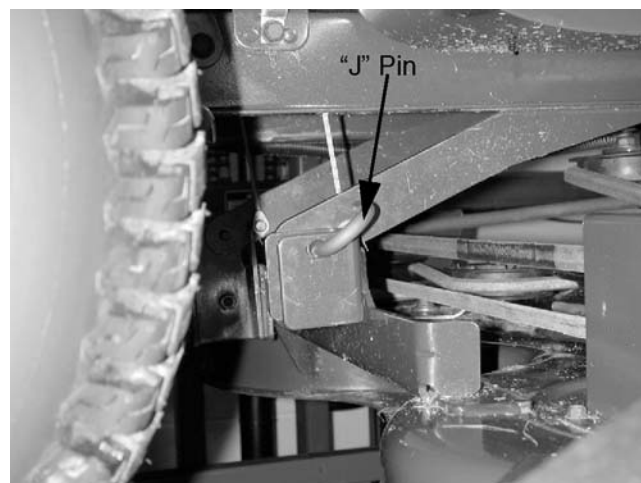

Figure 11-6
2. Pull outward on the rear "J" pins and rotate them to lock them in the out position. See Figure 11-6.